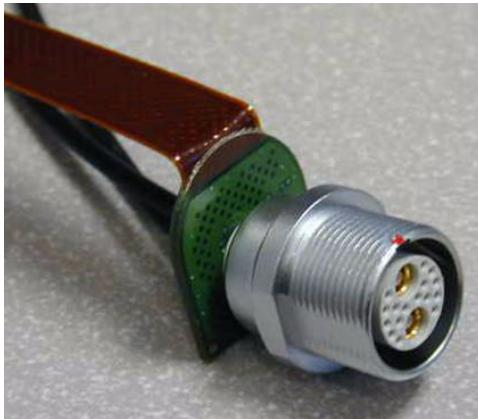

Figure 47 Creating a sharp bend
- Create A Sharp Bend (Figure 47): The flex circuit must be bent at a right-angle where it meets the printed circuit board. It can only be bent after heat has been applied to it (i. e. using a hot-air gun, or a similar device)